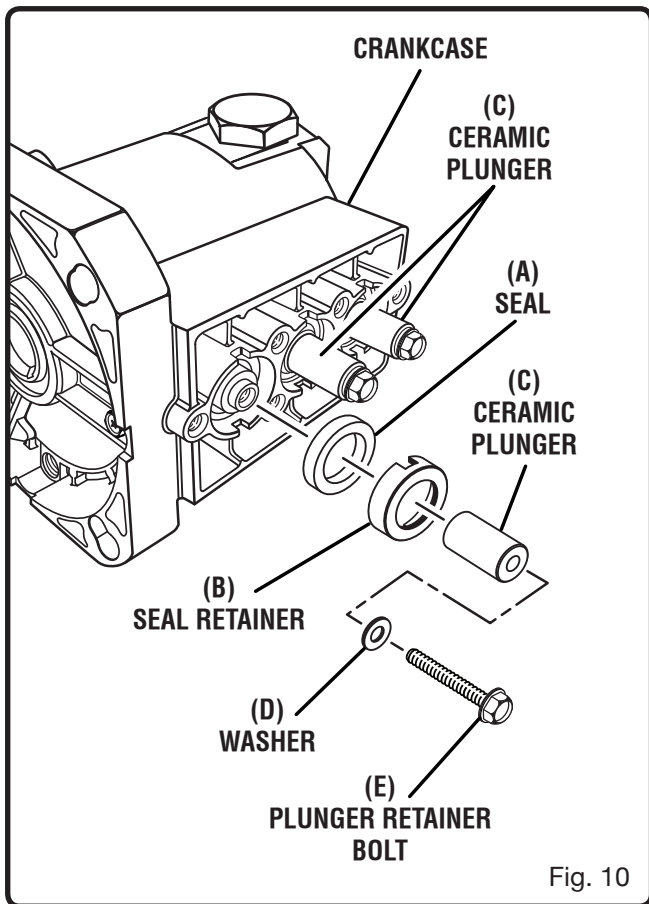

Fig. 10
1. Remove seal retainer (B) from each plunger rod. *See figure 10 page 19.*
2. Using a 10 mm hex tool, loosen the plunger retainer bolt (E) on each plunger rod.
3. Remove the ceramic plunger (C) and washer (D) from each chamber. Depending on the model pump, there may be a copper retainer gasket on each plunger retainer. Replace the copper plunger retainer gasket with an NBR seal washer.
4. Visually inspect the crankcase oil seals (A) for deterioration or leaks.
5. Examine washers (D) and replace if cut or worn.
6. Examine plunger seal retainers (B) for damage and replace as needed.
7. Examine the ceramic plungers (C) for scoring, scale buildup, chips or cracks and replace as needed. The ceramic plungers (C) do not need to be replaced with every seal servicing.
1. Apply Loctite 242 to exposed threaded end of plunger retainer (E). *See figure 10, page 19.*